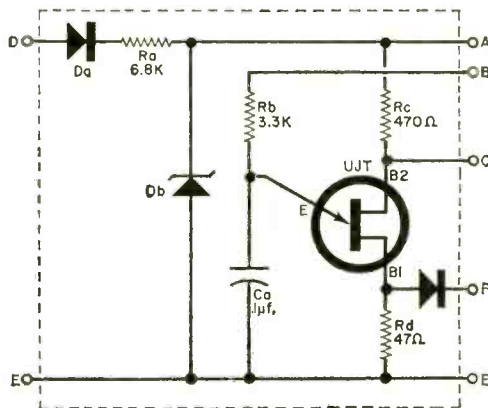

Fig. 1. Modified sawtooth signal across points B and E is fed to an external amplifier and speaker.
**The UJTO Circuit.** The heart of the Lumemin is a versatile UJTO (Unijunction Transistor Oscillator) module (Fig. 1), driven by a power supply and its photoconducting circuit. The UJTO pro-
Referring to Fig. 1, an a.c. input applied across *D* and *E* is rectified by diode *Da* and smoothed out by *Ra* and a 500- $\mu$ f. capacitor (*Ca*) in the power supply circuit. Zener diode *Db* limits any voltage surges from the power supply to maintain a constant potential at the unijunction transistor (UJT) base electrodes through *Rc* and *Rd*.
Recall from Fig. 1 that a modified
directly by the a.c. line, isolation transformer *T1* is used to insure greater safety and shock-free operation. Terminals *C* and *F* on the UJTO's circuit board (Fig. 1) are not used in this application.